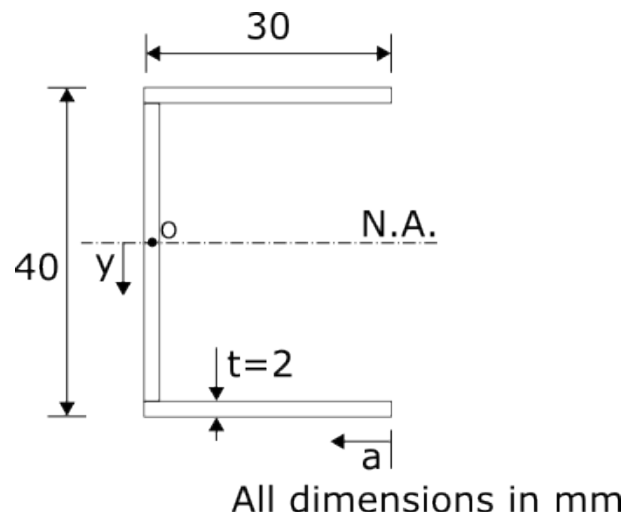

Figure Q4
4. The thin walled channel cross-section shown in Figure Q4 is subjected to a vertical shear load of 5kN.